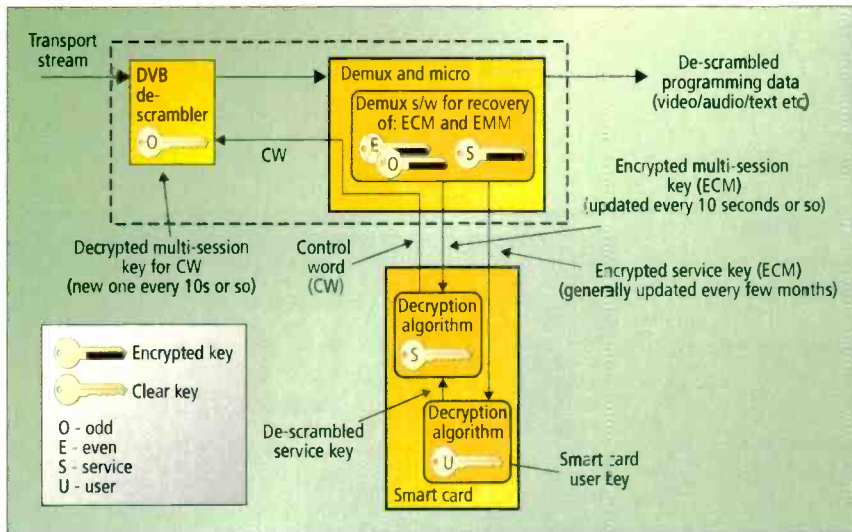

Figure 2. This block diagram shows a DVB descrambling system.
viewer can see a particular program or view the programming material for a particular session. As Figure 2 shows, the service key (EMM) is sent to the smart card, where it is decrypted with the help of the user key held inside the smart card. The descrambled service key is then used as the key to descramble the session key (ECM). This descrambling yields the control word (CW). It is this CW